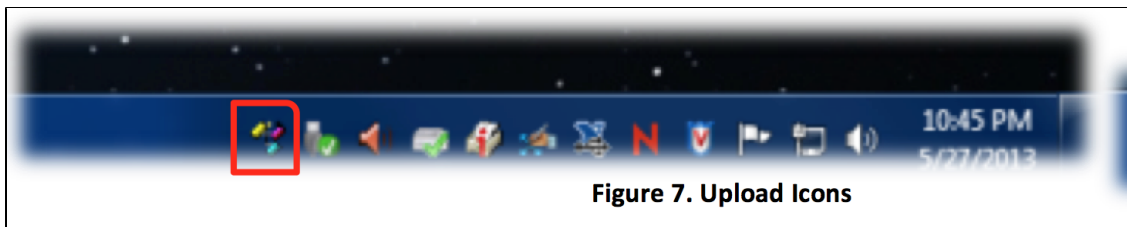

Figure 7. Upload Icons
1.	Uploading SHMSL data to the LIMS database is executed via the MUT application. Click the MegaUploadatron (MUT) icon (Figure 7, below).